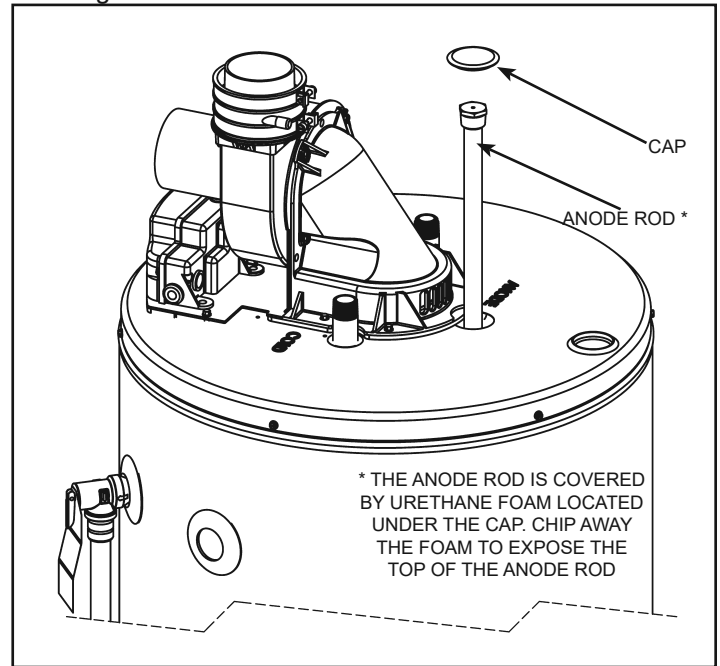

Figure 38
4. Remove the anode cap on top of the heater and remove just enough insulation so you can access the anode head (Figure 38). Keep in a safe place for reinstallation later.
5. Remove the anode rod by using a ratchet and a 1-1/16" socket turning counter-clockwise (Figure 38).